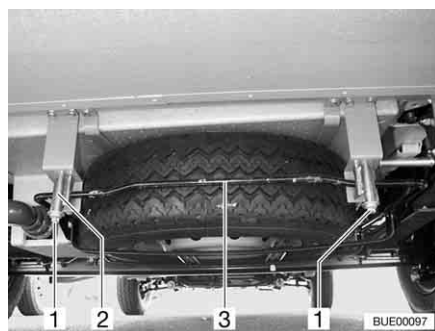

Fig. 277 Spare wheel support (basket)
- Loosen the nuts (Fig. 277,1) on the right and left rear hooks (Fig. 277,2) of the spare wheel support.
- Pull the bar (Fig. 277,3) slightly upwards. At the same time, pull down the hooks and unhook the bar.